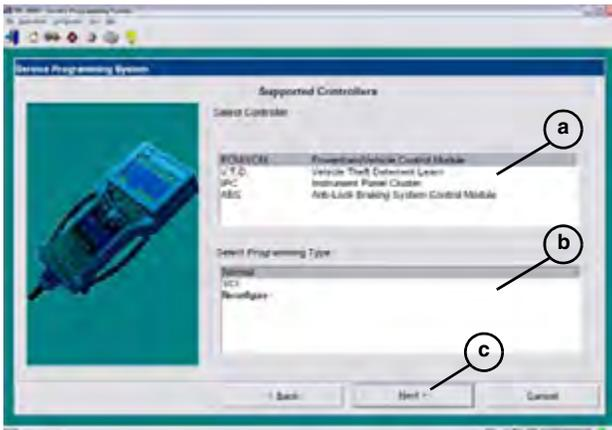
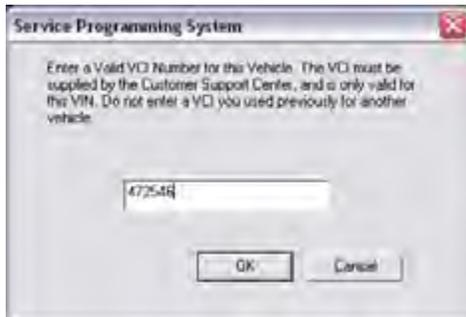

Figure 2.17: Supported Controllers Window
Figure 2.19: VCI Number Request Box
- 13 If you selected a controller that requires additional information (in Figure 2.17), an information request dialog box appears (Figure 2.18). If this dialog box appears, do the following. (Otherwise, skip this step.)
14 If you selected VCI as the programming type (in Figure 2.17), a dialog box appears for entering the VCI number (Figure 2.19). If this dialog box appears, do the following. (Otherwise, skip this step.)
- b Enter the VCI number into the VCI box (Figure 2.19).